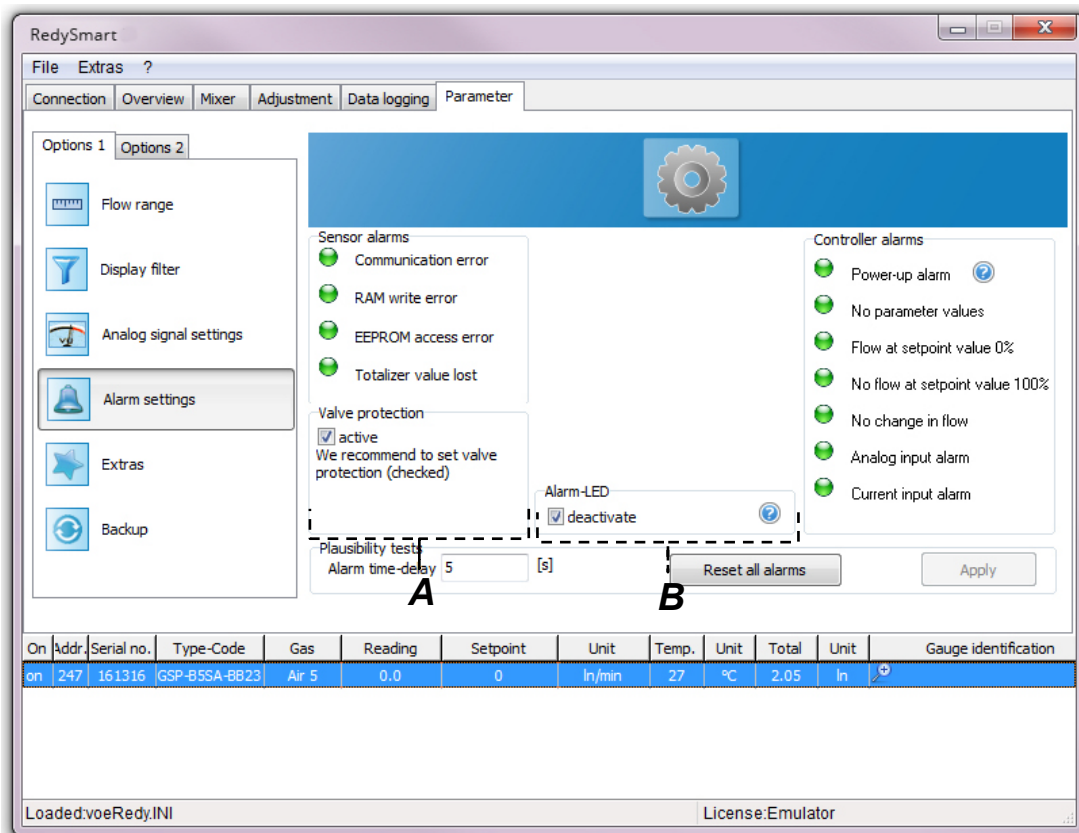

Figure 20: Alarm page for switched on valve overload protection
- D. From End Value:** The values in the [Cor. [%]] column in the Table in Figure 20 represent the measurement value errors in percentages. When you select a row the end value errors are also given in percentages.